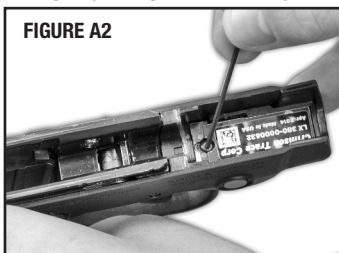

FIGURE A2
- Using the hex wrench provided, turn the screw at the rear of the laser housing counterclockwise until the screw disengages from the frame of the M&P® BODYGUARD®380 (FIGURE A2) - The screw remains captive in the laser housing and won't come out.